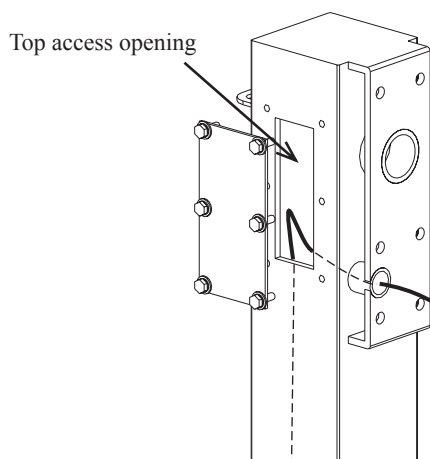

Figure 6 Connecting Wiring Through Pole
4. Insert connecting wiring into the bottom access opening, run through the pole up to the top access opening. Insert the end through the housing connecting hole. Close the top access opening and make necessary wiring connections at the bottom access opening (Figure 6).